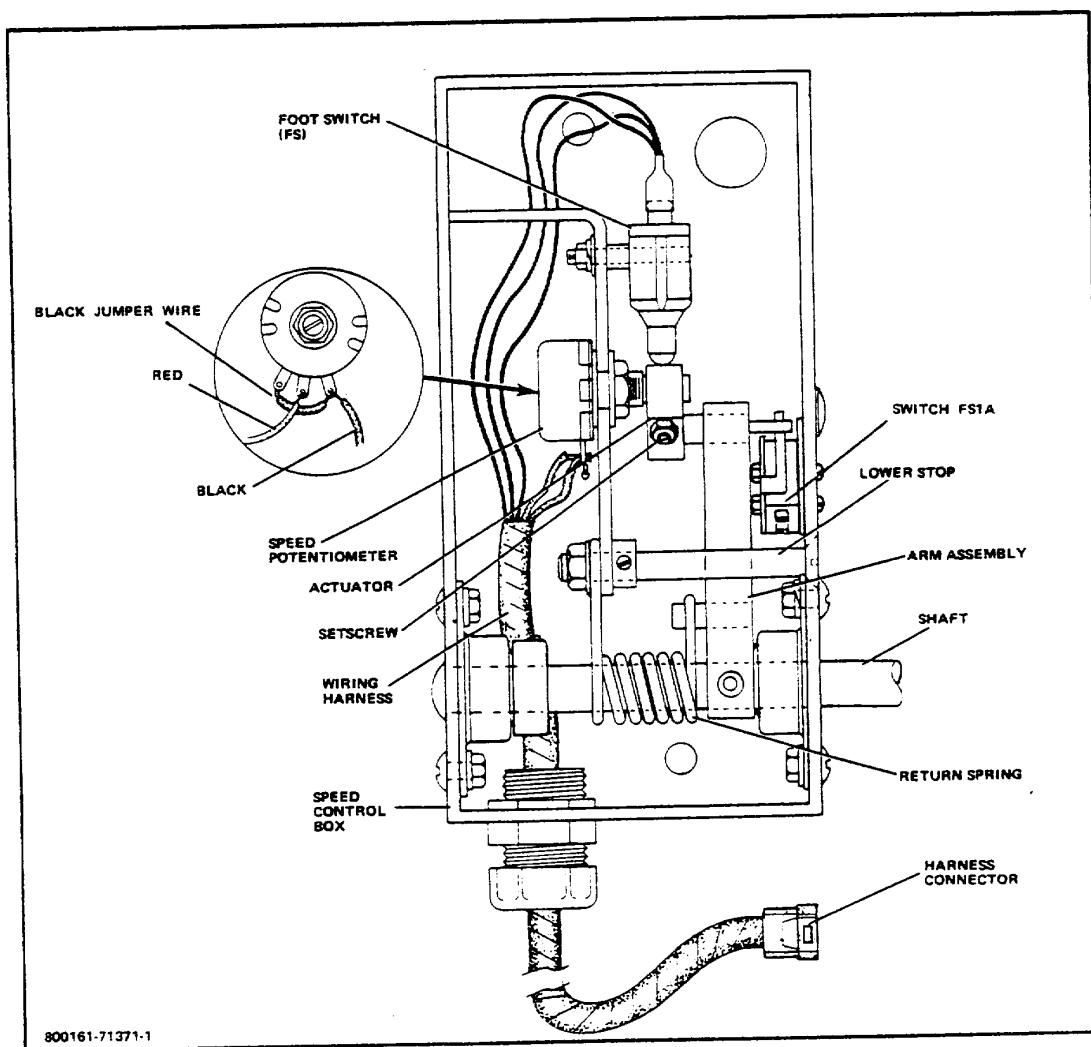

Figure 6-3. Speed Pot Wiring
5. Solder the electrical leads to the proper terminals (Fig 6-3).